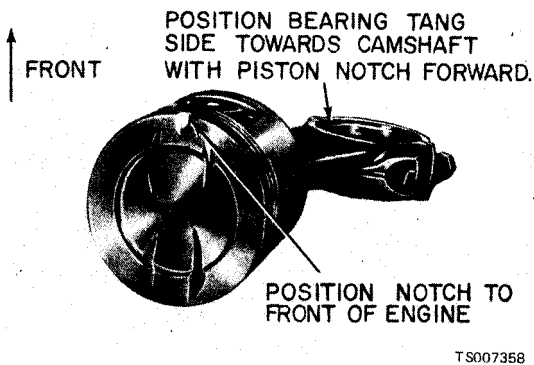

Figure 6-29. Oil Hole Position.
(1) Apply a light coat of engine oil to all parts. Assemble the piston to the connecting rod with the bearing tang side of the connecting rod and the indentation notch in the piston positioned as shown in figure 6-29.